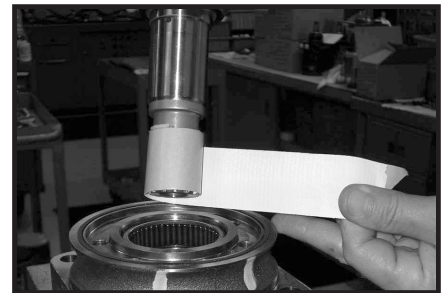

Figure 37
7. Apply masking tape around splines or keyway on shaft (12) to prevent damage to seal. SEE FIGURE 37.